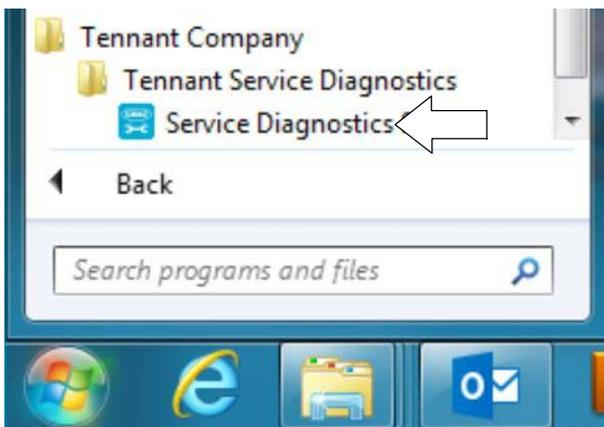

Fig. 15
2. Start the Service Software Application program “**Service Diagnostics...**”(Figure 5). Refer to Figure 15 for further details to access software.
The software is pre-installed on your computer as shown below. The software application is titled “**Service Diagnostics**” (Figure 15).
7. After the service application software is installed on your computer, refer to figure 15 to access the program.
5. After the software is installed on your computer, refer to figure 15 to access the program.